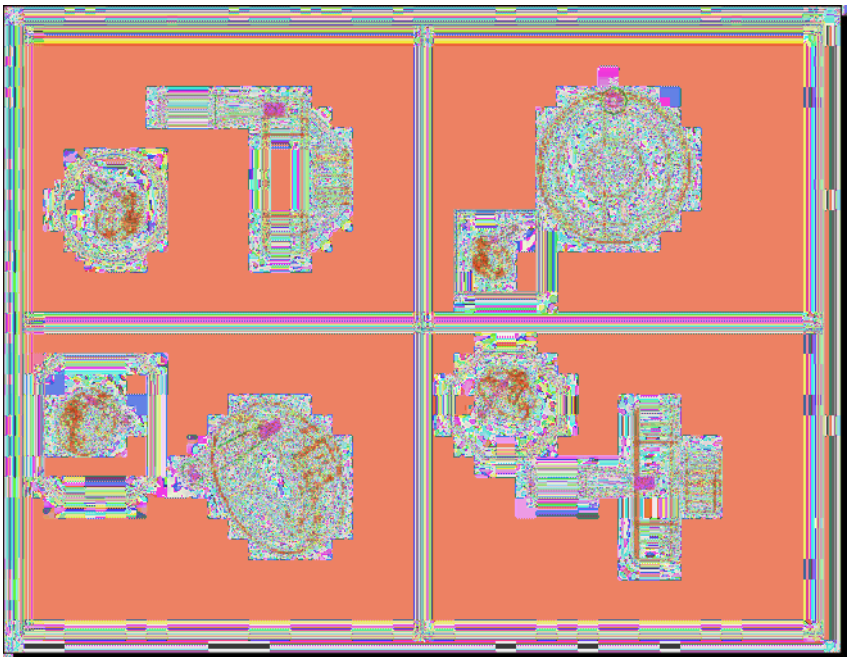

Fig. 19.12 Polygonal viewports – plot preview
### Polygonal viewports (Fig. 19.12)
13. Click the **Plot** icon. Make plot settings in the **Plot** dialog. Click on the **Preview** button of the **Plot** dialog. The **Preview** appears (Fig. 19.12).